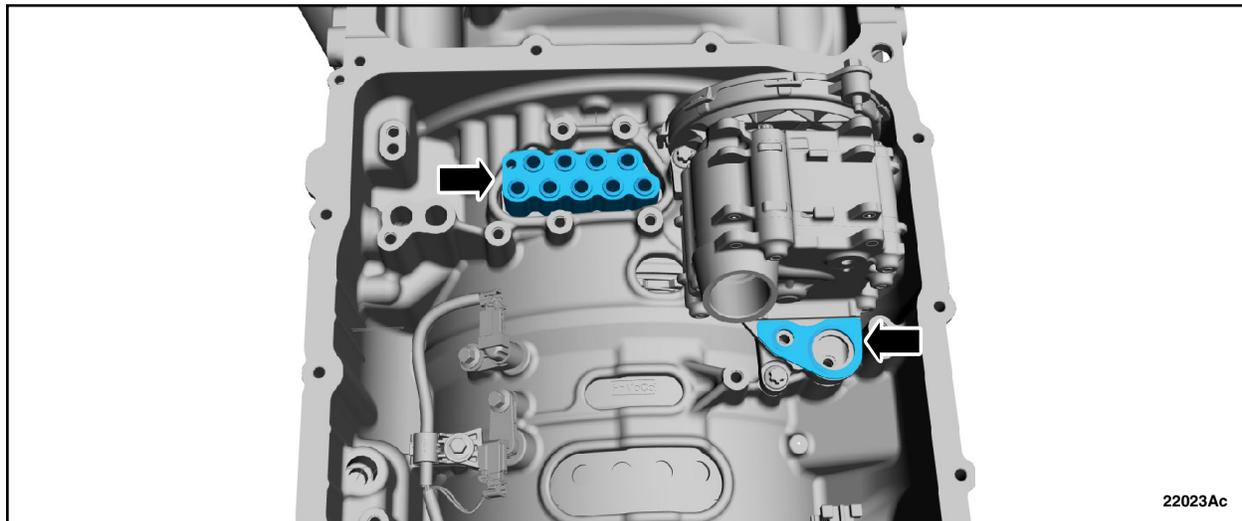

FIGURE 4
- Remove the main control manifold seal and the fluid pump gasket. See Figure 4.